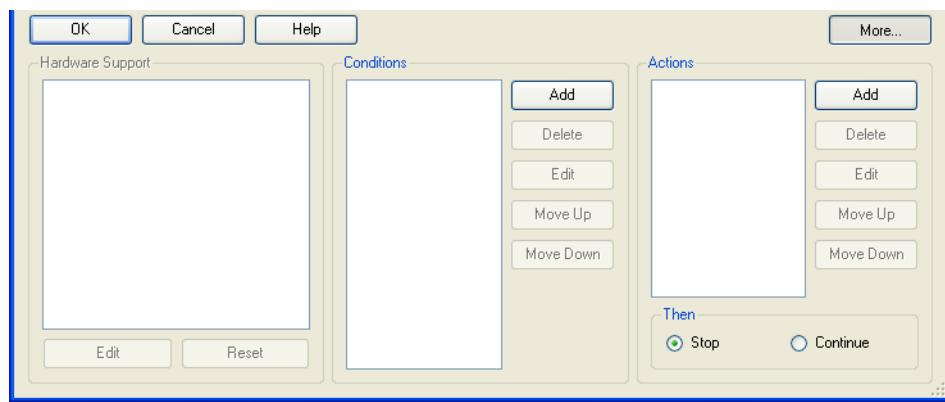

Figure 12-14 Breakpoint behavior controls
2. Click **More...** on the breakpoint dialog box you are using. The breakpoint behavior controls are displayed. Figure 12-14 shows an example:
2. Click **More...** on the breakpoint dialog box you are using to display the breakpoint behavior controls. Figure 12-14 on page 12-18 shows an example.